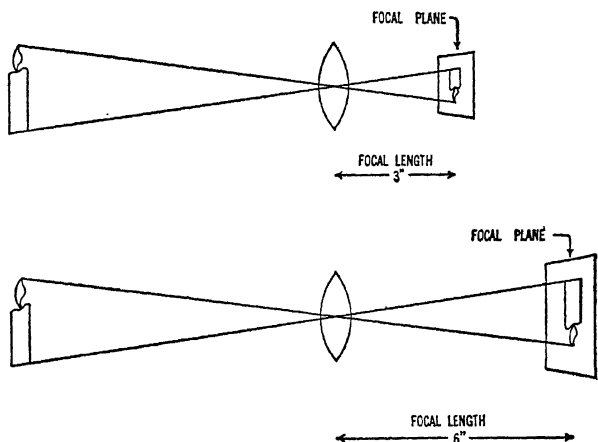

FIG. 2. FOCAL LENGTH GOVERNS SIZE OF IMAGE
*Size of Image.*—The image will be larger for lenses of long focal length than for lenses of short focal length, as is shown in Fig. 2, because the rays of light have a greater distance to spread or diverge before coming to a focus. It naturally follows that the lens of longer focal length, which spreads the rays of light farther apart before they reach the focal plane, makes a much larger image because the image of the object takes up more space on the film or on the ground glass in the focal plane. Also, since the image of the object is larger for the longer focal length lens, less background or other subject matter can be in the picture. With the lens of long focal